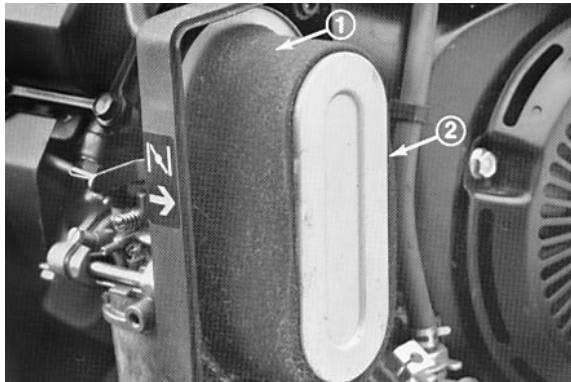

Figure 24
3. If the foam element is dirty, remove it from the paper element (Fig. 24). Clean it thoroughly.